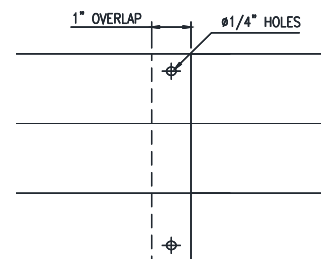

Fig. 12 – Hose Covers
- 31) After control console and center hose cover are positioned, drill (4) 1/4" holes in the corners and install supplied drive anchors.
- 32) For hose covers between control console and the lift structure, overlap sections approx. 1" and drill (2) 1/4" holes thru each connection as shown in **Fig. 12**. Total length of hose covers is approx 4 meters.